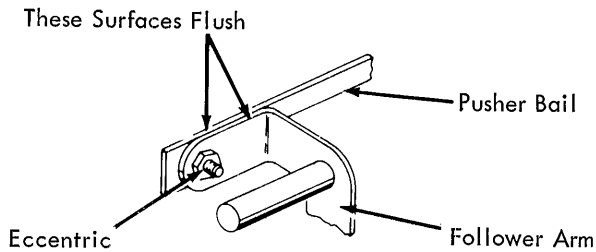

FIGURE 24. Pusher Bail
- Pusher Bail Eccentrics (Fig. 24) - Adjust so that the top edge of the follower arms are flush with the pusher bail.